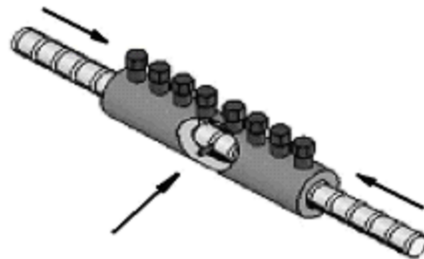

Figure 3
Step 3: Insert rebar into nVent LENTON Lock coupler until contact is made with the center stop pin as shown in Figure 3. Rebar must be flush against center stop pin.